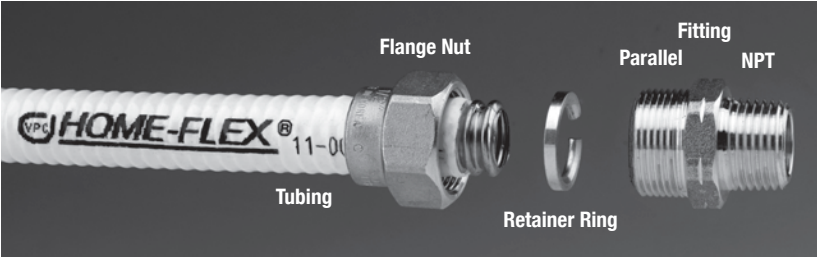

Figure 4.2 (1) Gasket in Fitting Before Assembly, (2) After Assembly (note groove in gasket), and (3) Compressed Tubing
HOME-FLEX® fittings achieve seal by compressing the tubing into the gasket (Figure 4.2). It is critical that the cut end of the tubing is clean of any burrs or jagged edges, and that there is no debris on the tubing or gasket. A seal is achieved with a good deal of force (Table 4.3). In the absence of a torque wrench, the general guideline is to tighten with two wrenches (one holding the fitting in place, the other turning the flange nut counter-clockwise) until the nut will no longer turn and only 2-3 threads are showing.
**Note: The gasket can only be used once.** Once it has been compressed (Figure 4.2) during the assembly process, it cannot be reused. A new gasket must be installed in the fitting